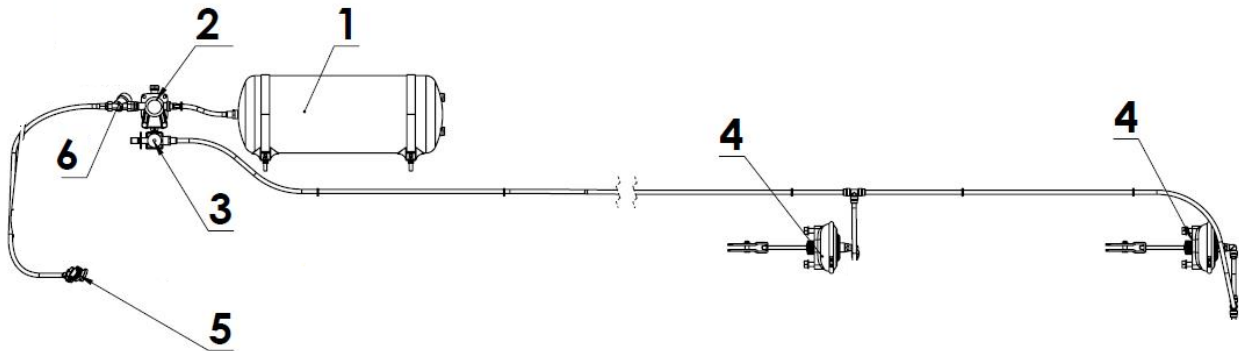
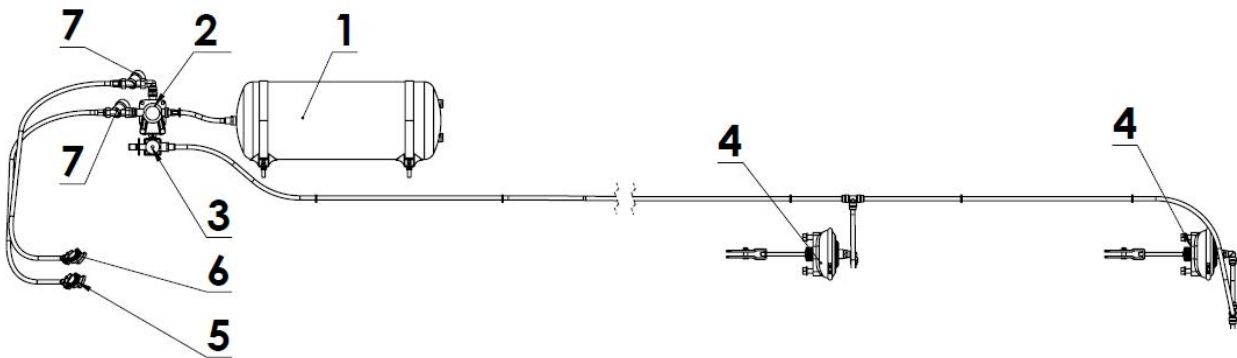

Figure 13. Diagram of the pneumatic single-line brake system with a manual braking force regulator.
Figure 14. Diagram of the pneumatic double-circuit brake system with a manual braking force regulator.
- Brake valve 2 (fig. 13, 14, 15) of the pneumatic installation has a system releasing the brake, which is used in the case when the spreader is disconnected from the tractor.
1. Braking force regulator 3 located in the pneumatic system (fig.13, fig. 14) is controlled manually. Depending on the load of the spreader with cargo, the control lever must be set in one of three positions:
2. The braking force regulator 3 (fig. 13) in the pneumatic system is automatically controlled depending on the axle load of the spreader.